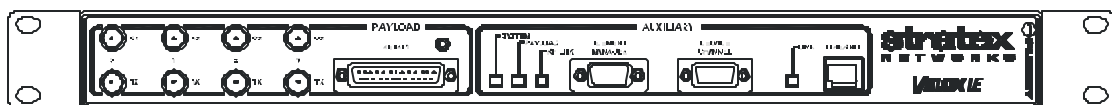

Figure 8-7. Velox LE (75 Ohm) DIU
- Velox LE (75 / 120 Ohm) (scaleable up to 4 T1/E1) (see Figure 8-7 below).